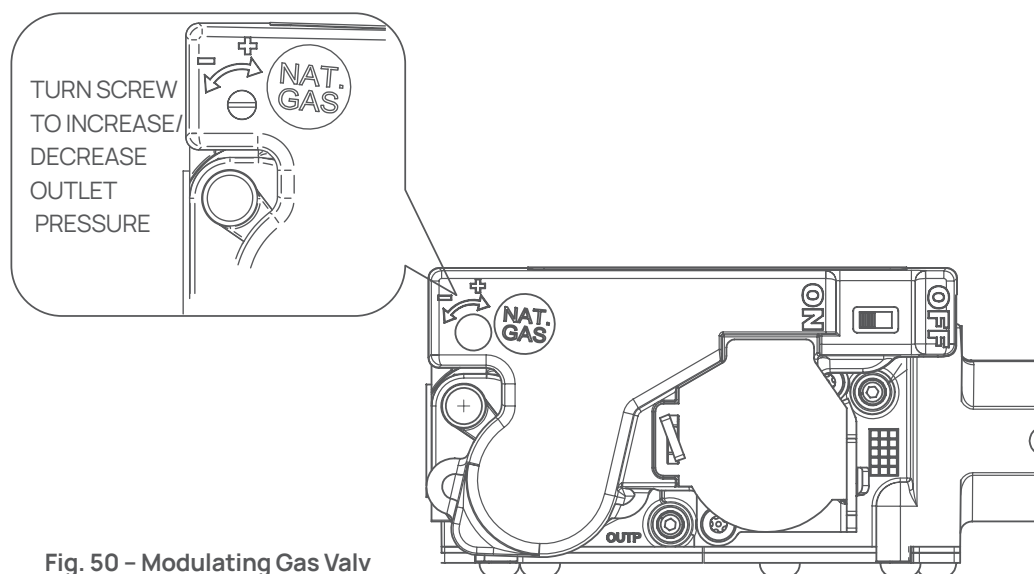

Fig. 50 – Modulating Gas Valv
10. To adjust the manifold pressure for Maximum Heat, slowly turn the adjustment screw clockwise to increase the pressure or counterclockwise to decrease it. Do not turn the screw by more than one click at a time, pausing between adjustments until the required pressure is achieved. See Fig. 50.